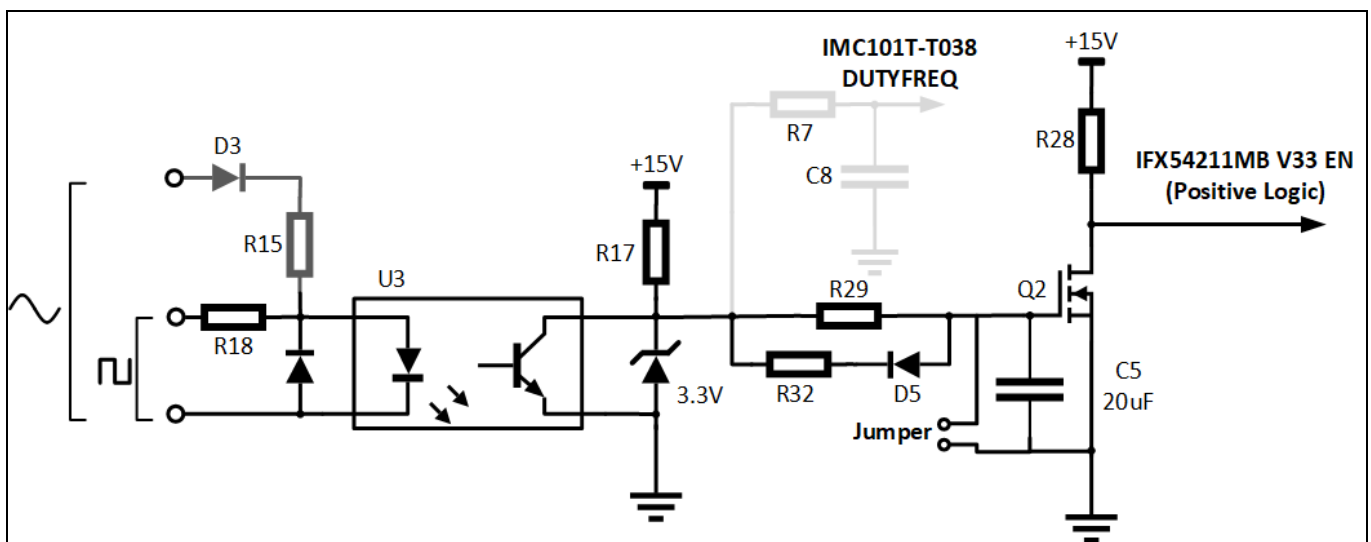

Figure 26 IFX54211MB V33 Enable function control circuit
Considering the requirements for standby power consumption in refrigerator applications, the board selects a linear power supply with an enable function. The part number of this linear voltage regulator is IFX54211MB V33, which is also an Infineon product. On the board, we have designed the circuit to transfer the frequency signal to the enable (EN) signal, as shown in Figure 26. If you do not need this function, jump the jumper J5 on the board so that the linear voltage regulator is always on Enable.